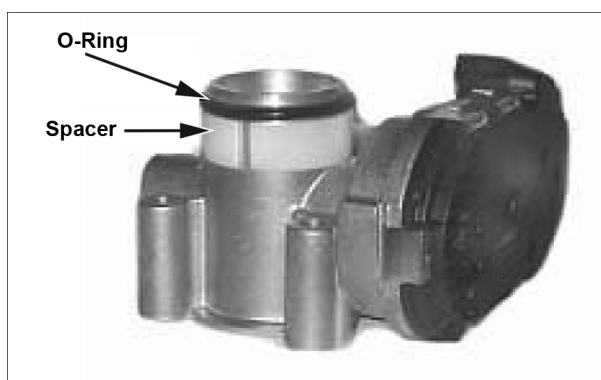

Figure 31. O-Ring and Spacer Within Mixer Adapter Assembly
3. Position the mixer/adapter assembly onto the throttle body (7), then drop in the four mounting bolts (4) and gently push down on the assembly until it rests on the throttle body. Be careful not to pinch the O-ring. (See Figure 31.)
5. Connect the wiring harness (8) to the throttle body.
6. Install the vapor fuel inlet line (3) to the mixer.
7. Install the vacuum line (2) to the mixer.
8. Install the air cleaner hose (1).
NOTE : A plastic O-ring spacer and an O-ring are inside the mixer/adapter assembly. Be careful not to lose these items when removing the assembly from the throttle (Figure 31).